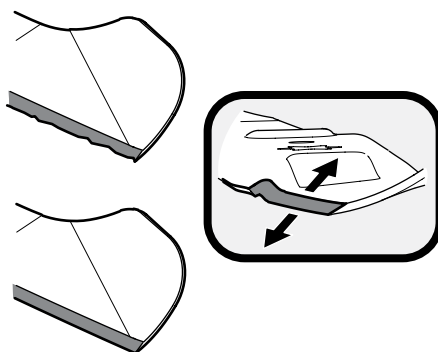

Figure 4-7
4. To properly sharpen the cutting blades, remove equal amounts of metal from both ends of the blades along the cutting edges, parallel to the trailing edge, at a 25° to 30° angle. Always grind each cutting blade edge equally to maintain proper blade balance. See Figure 4-7.